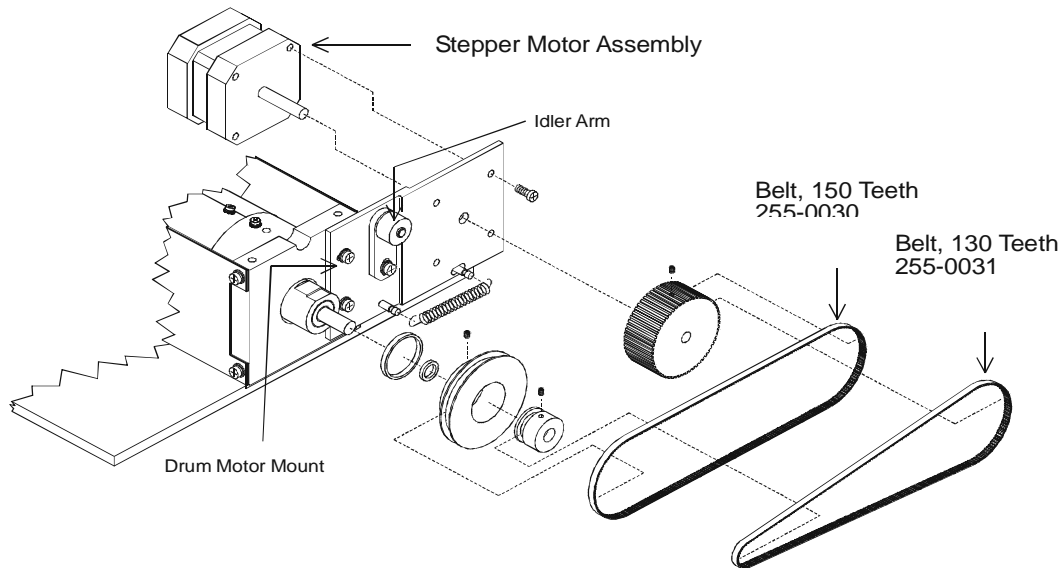
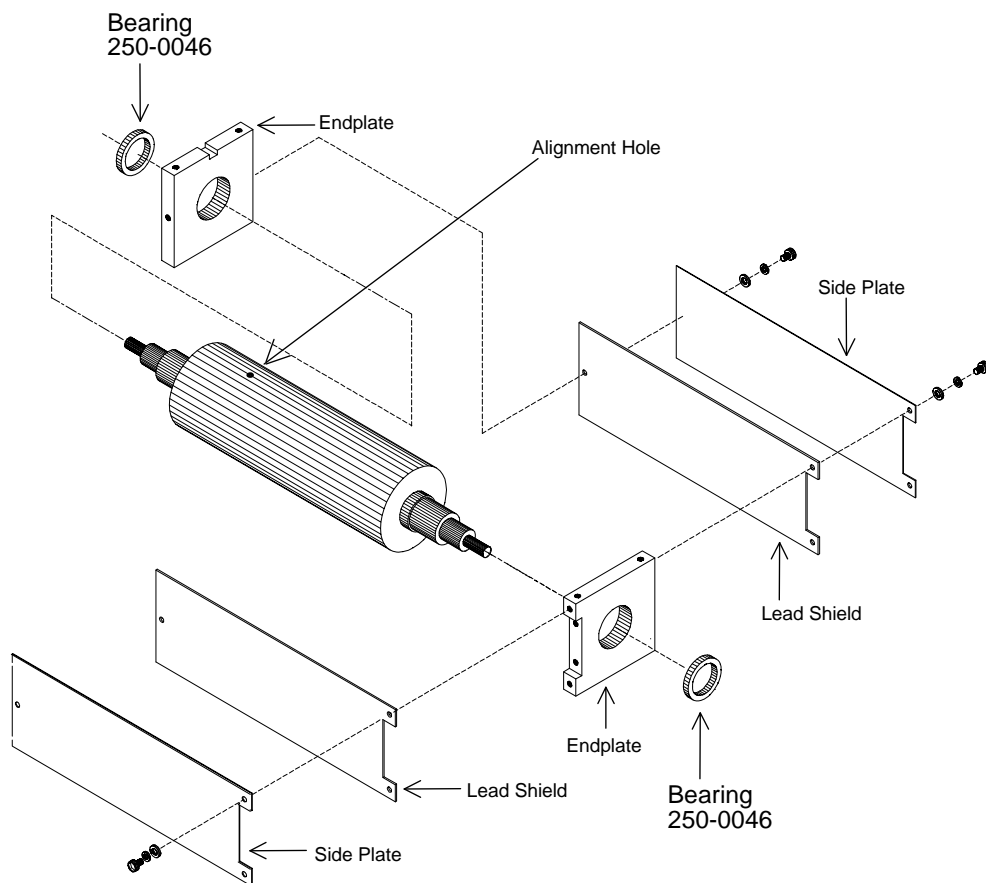

Figure 5-21. Front Drum Assembly FRUs
Figure 5-22. Drum Bearings
To remove and replace the drum bearings, refer to Figure 5-21 and Figure 5-22 and follow the procedure below:
11. Replace the 2 endplates. The endplate with the cutout (for the PCB) goes on the drum end *away* from the alignment hole (see Figure 5-21).